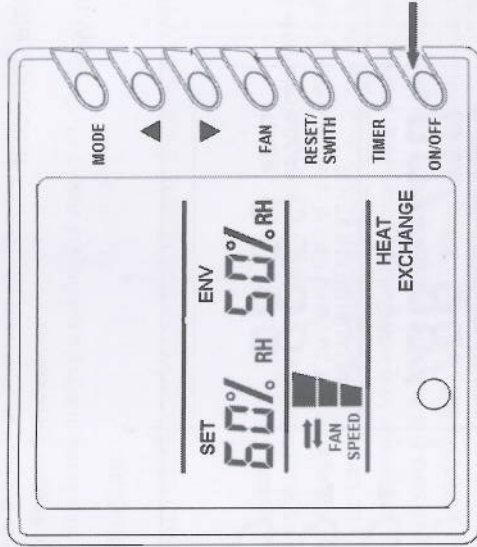

Fig.2
- (1) Press ON/OFF button to start the unit. (Fig.2)
- (2) Press ON/OFF button once again to stop the unit.